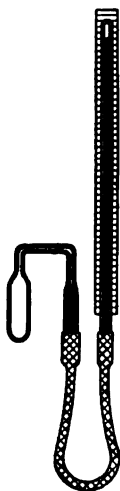

FIG. 126. — Gas thermometer.
**146. Expansion of Gases.**—The law of Charles is found to apply to all gases. That is, all gases change in volume in proportion to the change of temperature provided the pressure remains constant. It is for this reason that we have the *gas thermometer* (see Fig. 126) which gives in skillful hands more accurate temperature readings than the best mercurial thermometer. Galileo devised and used the first *air thermometer* which consisted of a hollow